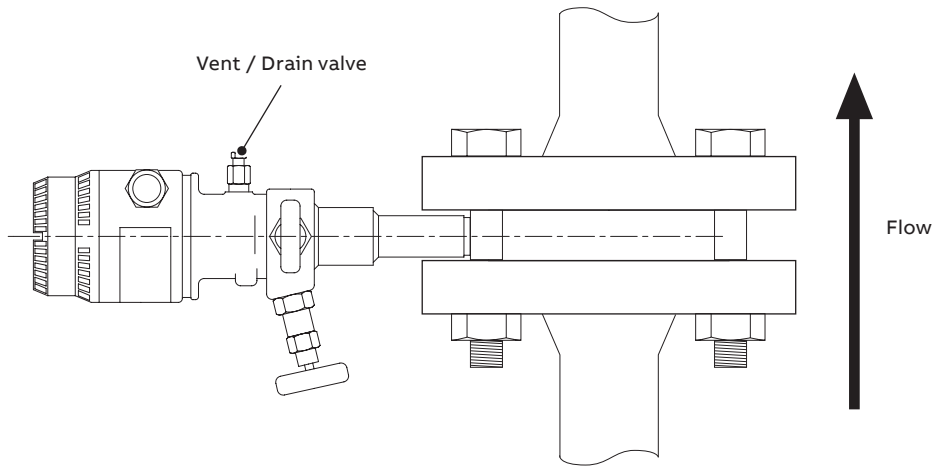

Figure 4 Vertical pipe mounting – liquid
- for vertical pipe mounting – liquid, refer to Figure 4, page 7.